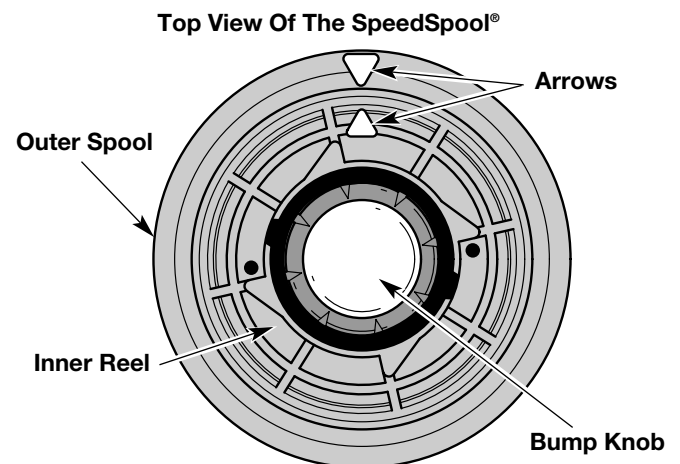

Fig. 15
2. Hold the outer spool and turn the inner reel counterclockwise to line up the arrows on the outer spool and inner reel (Fig. 15).